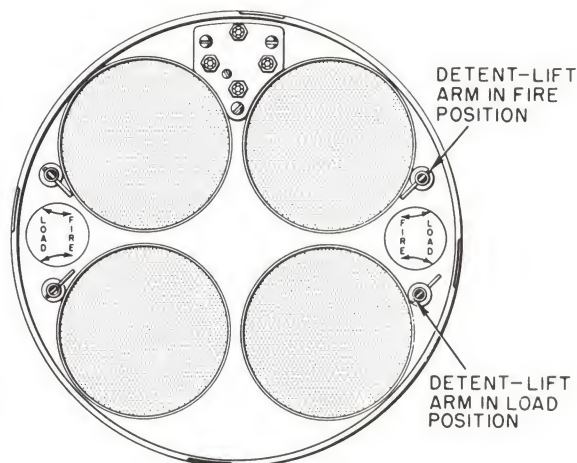

Figure 24 – Forward View of Launcher Showing Detent-Lift Arm in FIRE and LOAD Positions.
5. Then rotate all dentent-lift arms to the LOAD position, figure 24.
7. Using the detent-lift tool, rotate the detent-lift arm, figure 24, to the FIRE position.
1. Rotate the detent-lift arm to the LOAD position, figure 24.
5. Rotate the detent-lift arm of the launcher to the FIRE position, Figure 24, and leave it in that position until ready to load the launcher again.